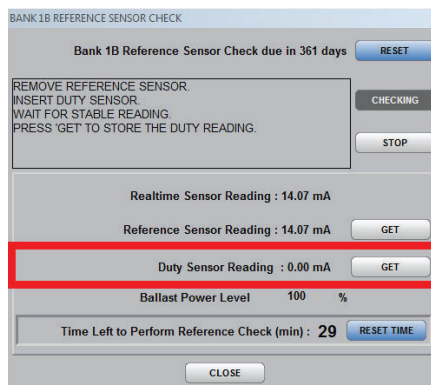

Figure 5 Duty Sensor - GET Screen
- Record the value (mA) on the Reference Sensor Data Sheet in the **Reference Sensor Reading (B)** column.
- Once the Duty Sensor Reading has stabilized, press the GET button for the Duty Sensor Reading (Figure 5).